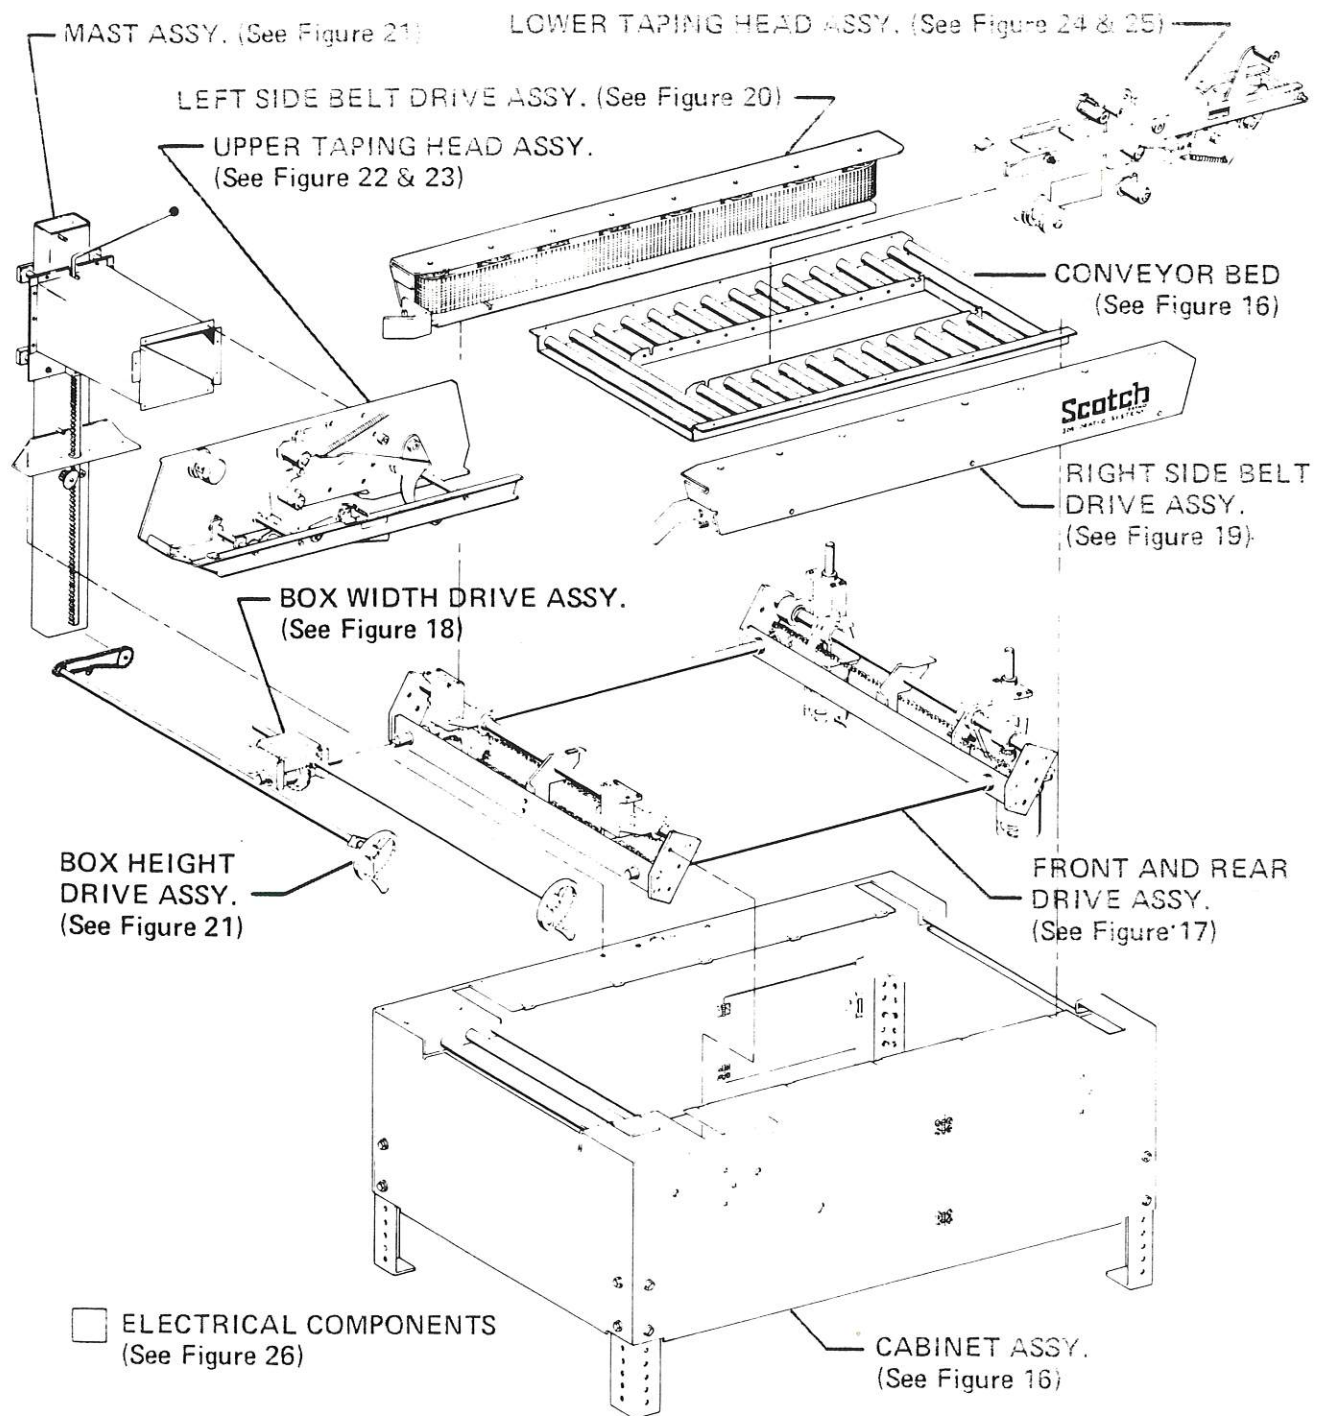

FIGURE 15 - 5A BOX SEALER, MODEL 276 COMPONENT ILLUSTRATIONS
- 1) Refer to figure 15 to find all the parts illustrations identified by figure numbers.